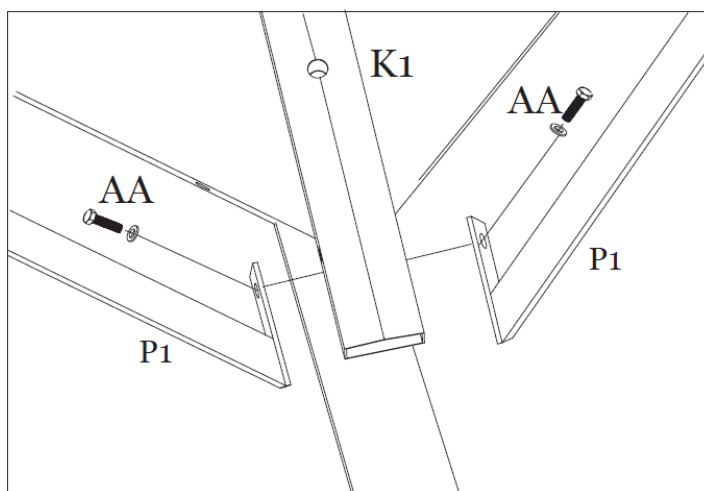

Figure 7-4
Step 7D: Attach the sides of the Roof Vent Frame by connecting the Roof Vent Frame (P1) to the Roof Vent Corner Support (K1) using Bolts (AA). See Figure 7-4.